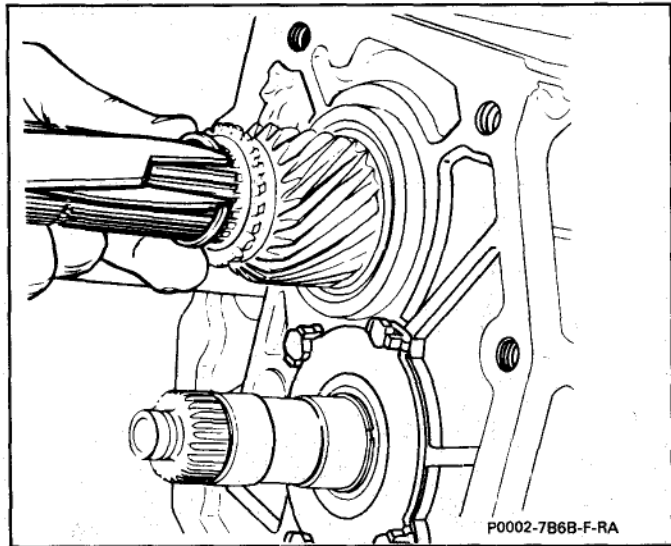

Figure 12 Fifth Gear Snap Ring
15. Snap ring from fifth speed driven gear (Figure 12).